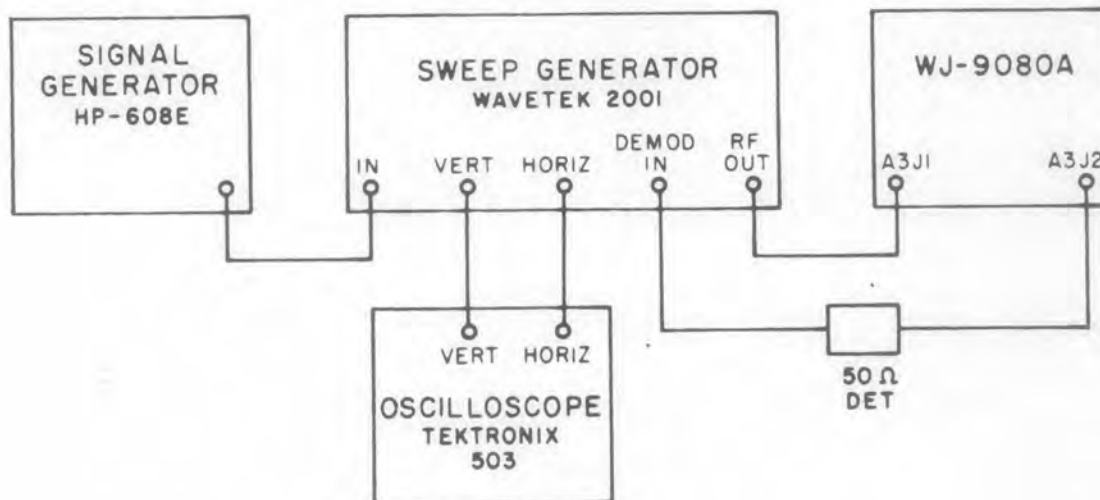

Figure 4-6. Equipment Setup, 160/21.4 MHz Converter Gain and BW
- (2) Using the frequency counter, adjust the signal generator output to 160 MHz, CW at -40 dBm.
- (3) Adjust capacitor A3A1C3 until an output is noted on the spectrum analyzer (approximately -36 dBm). Observe that when tuning A3A1C3 there is peak point at which the oscillation will stop. Do not set A3A1C3 too close to this point.
- (4) Observe the output looking for any sidebands. If sidebands are present, increase the value of A3A1R16 (10 Ω is a good starting value) until the sidebands disappear.
- (5) Reduce the signal generator output level to -55 dBm and verify that no sidebands appear.
- (6) Using the frequency counter, adjust the signal generator frequency as close as possible to 160.000 MHz.
- (7) Connect the frequency counter to A3J2 and measure the frequency. It should be 21.400 MHz \pm 2 kHz \pm input frequency offset.
- (8) Interconnect the equipment as shown in Figure 4-6.
- (9) Adjust the sweep generator to produce a 15 MHz wide sweep centered around 160 MHz.
- (10) Adjust capacitor A3A1C9 for maximum output at 21.4 MHz.
- (11) Adjust A3A1R17 for 4 dB gain from J1 to J2 and verify the 3 dB band width is 8 MHz minimum.
- (12) Restore normal module connections.